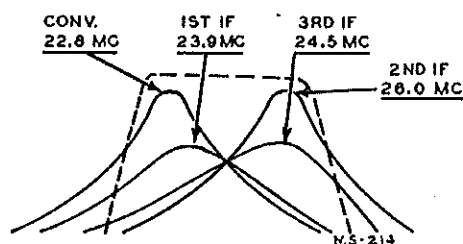

Figure 5—Relative Gains of I-F Transformers
**PICTURE I-F AND DETECTOR** (block No. 4)—The picture i-f amplifier departs considerably from the conventional coupled system. To obtain the necessary wide-band characteristic with adequate gain, three stages of i-f amplification are employed. The converter plate and each successive i-f amplifier utilize one tuned circuit each, and each is tuned to a different frequency. The effective Q of each coil is fixed by the shunt plate load or grid resistor so that the product of the total number of stages produces the desired response curve. Figure 5 shows the relative gains and selectivities of each coil and the approximate shape of the curve of the quadruple combination. This drawing does not take into consideration the effect of the sound traps.